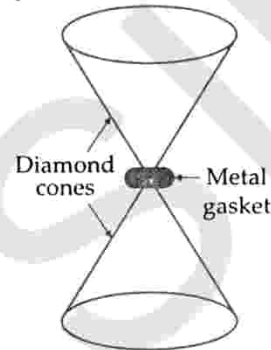

Fig. 9.35
9.17. Anvils made of single crystals of diamond, with the shape as shown in Fig. 9.35, are used to investigate behaviour of materials under very high pressures. Flat faces at the narrow end of the anvil have a diameter of 0.5 mm, and the wide ends are subjected to a compressional force of 50,000 N. What is the pressure at the tip of the anvil?